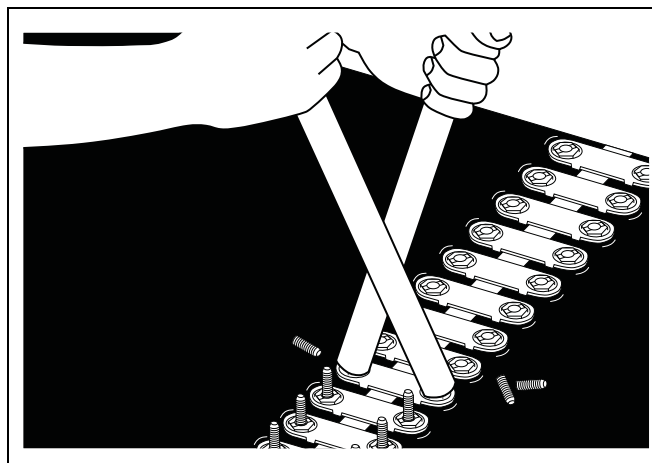

Figure 6R
12. Break off excess bolt ends using two (2) bolt breakers. Peen or grind bolts to finish. *(See Figure 6R.)*